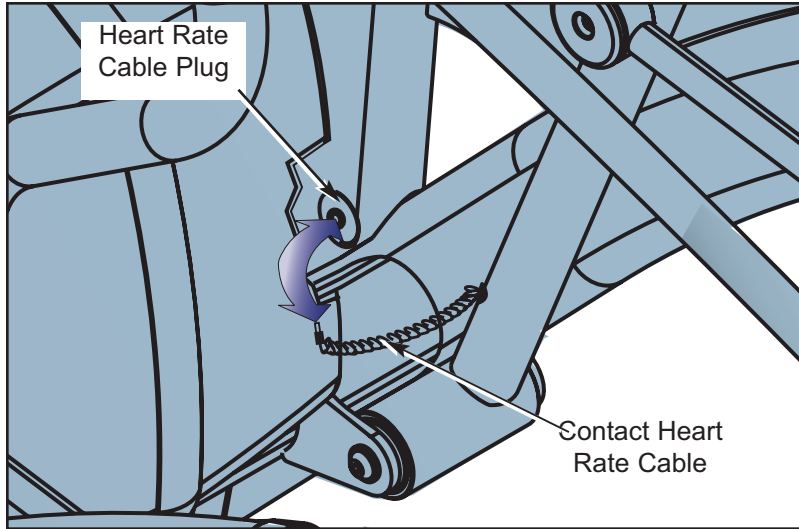
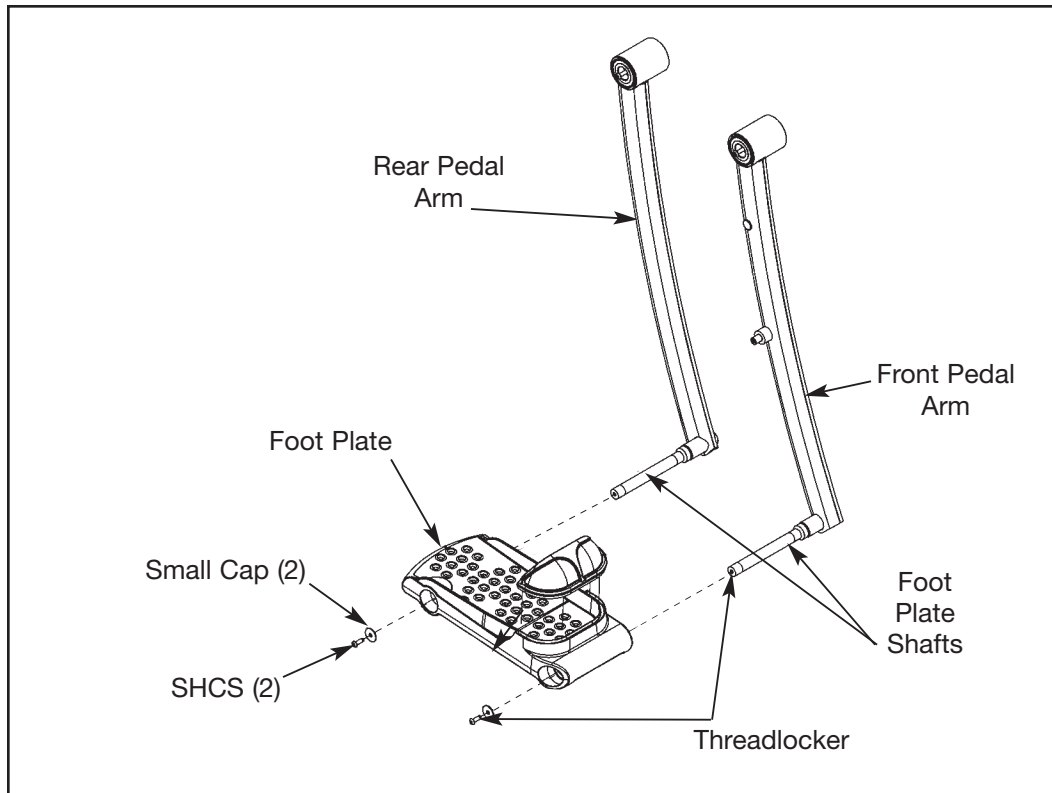

Figure 23
Figure 25
- A. Turn the main power switch above the power inlet to the off (O) position.
- A. Unplug the contact heart rate cable from the main frame. See Figure 23.
- A. Plug the contact heart rate cable into the plug in the main frame. See Figure 23.
- A. Using a Phillips head screwdriver or 3/16" Allen wrench, remove each SHCS securing the (appropriate) cap. See Figure 25.
- D. Using a Phillips head screwdriver or 3/16" Allen wrench, attach cap with the (appropriate) SHCS securing the cap. See Figure 25. **NOTE:** *SHCS must be tightened to a minimum of 100 inch-pounds.*